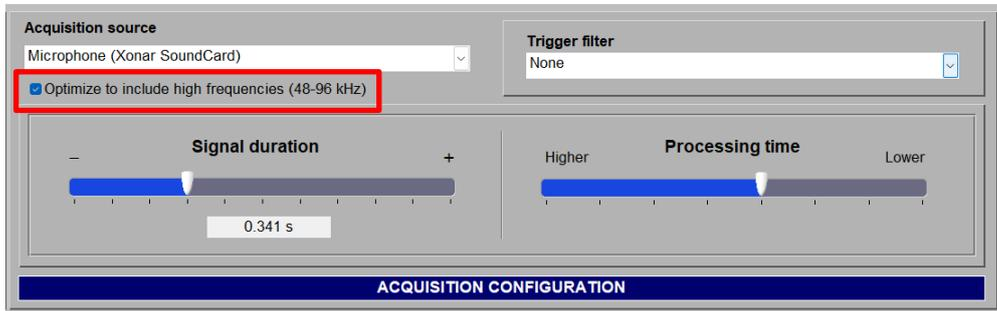

Figure 29 - Enabling the option to increase the detectable frequencies range.
Depending on the specimen characteristics, it may be necessary to enable the option "Optimize to include high frequencies (48-96 kHz)" (Fig. 29). This may occur for high-moduli and small-size specimens (length of a few millimeters). This option increases the detectable frequency range; however, it is advisable to enable this option only when the resonance frequency expected is higher than 48 kHz. If it is not necessary, disable this option. To estimate a specimen
*Note: the acquisition time is divided in half if the option "Optimize to include high frequencies (48-96 kHz)" is enabled (Figure 29).*